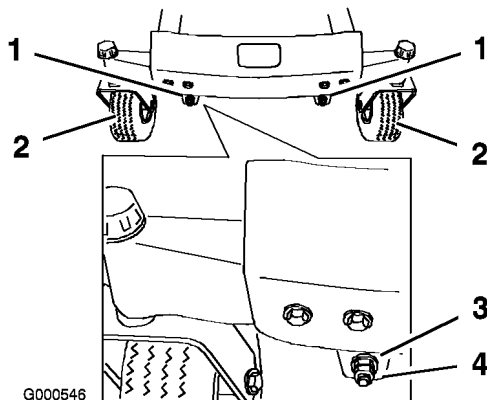
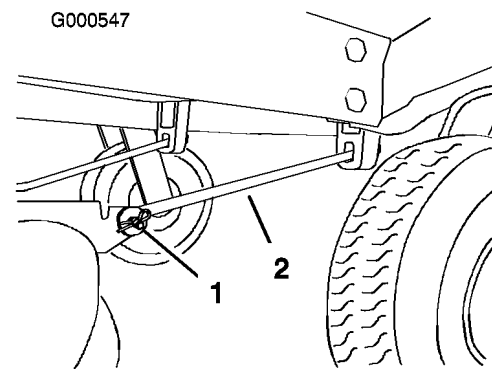

Figure 45
Figure 46
11. To adjust the front-to-rear blade slope, remove the locknuts and then rotate the adjustment nuts in the front of the mower (Figure 45).
13. After adjusting both adjustment nuts evenly, check the front-to-rear slope again. Continue adjusting the nuts until the front blade tip is 1/16-5/16 inch (1.6-7.9 mm) lower than the rear blade tip (Figure 45).
Note: After adjusting the adjustment nuts, make sure there is no slack in either support rod (Figure 46). Tighten either one to remove the slack (Figure 45).
4. Remove the hairpin cotter and clevis pin from the front support rod on each side of the mower (Figure 46).
7. Attach the front support rods to the machine with the clevis pins and hairpin cotters (Figure 46).